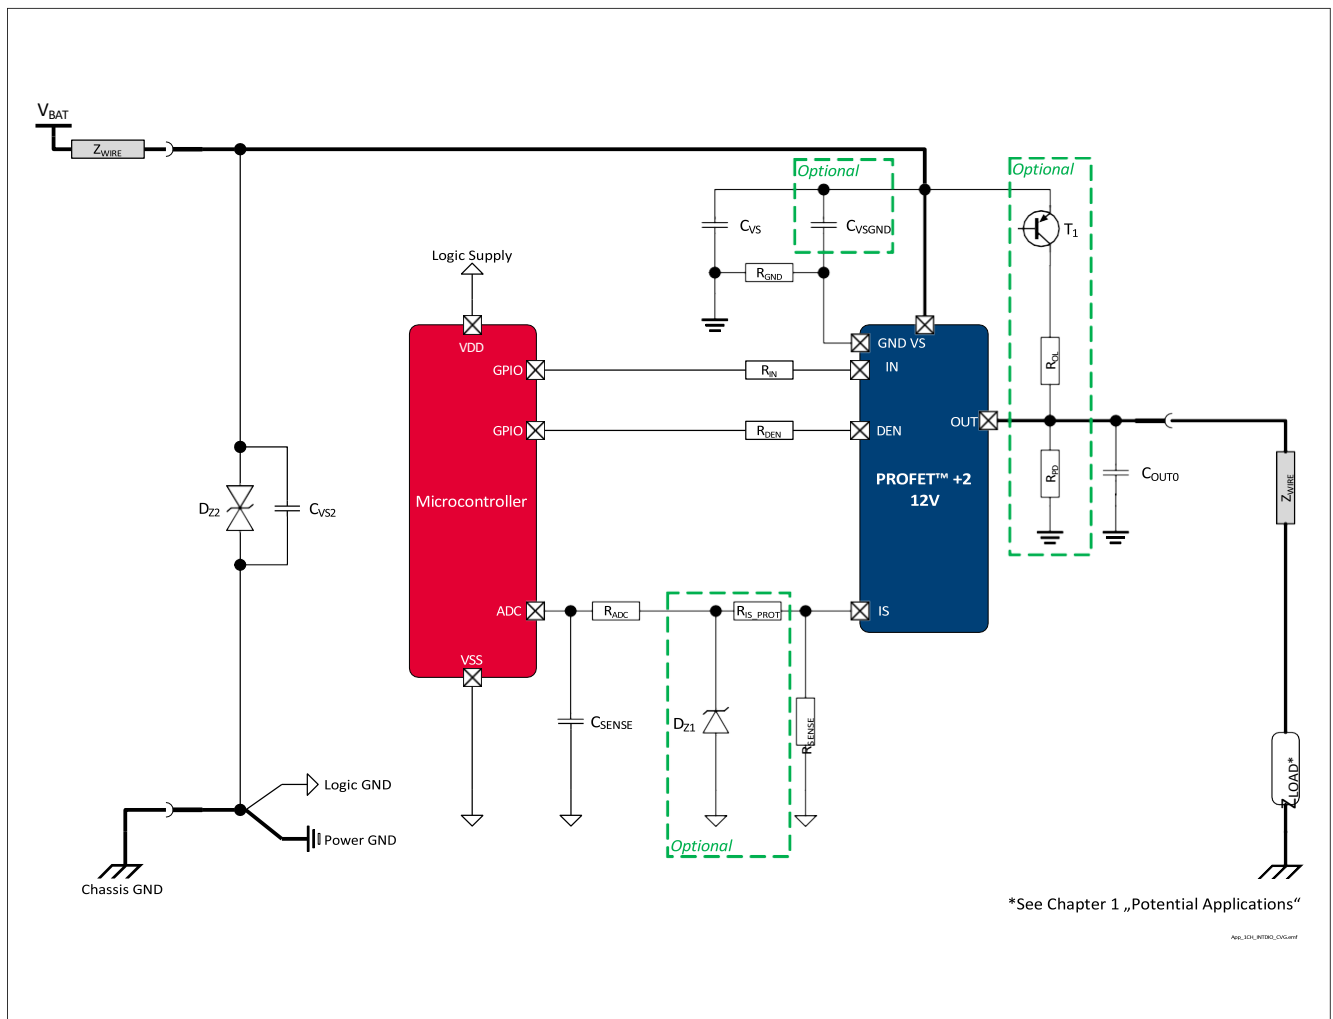

Figure 37 BTS7006-1EPZ Application Diagram
1.10, 2020-12-14	<p>Typo fixed (PROFET™+2 → PROFET™ +2)</p> <p>Figure 1, Figure 16, Figure 17, Figure 18, Figure 20, Figure 21, Figure 22, Figure 25, Figure 29, Figure 30, Figure 34, Figure 37 updated</p> <p>Chapter 1, Chapter 6.1, Chapter 6.1.3, Chapter 6.1.4, Chapter 8.2, Chapter 9.2.2 updated</p> <p>Chapter 8.4.1 updated (typo fixed)</p> <p>P_7.4.5.1, P_7.4.5.2, P_7.4.5.3, P_7.4.5.4, P_7.4.5.6, P_7.4.5.7 updated (added in Note or Test Condition: See Figure 15)</p> <p>P_8.6.4.1 updated (added in Note or Test Condition: See Figure 26)</p> <p>P_8.6.4.2 updated (added in Note or Test Condition: See Figure 27)</p> <p>P_9.6.0.6 updated (Parameter: SENSE Operative Range for <math>k_{ILIS}</math> Operation (<math>V_S - V_{IS}</math>) → Saturation Voltage in <math>k_{ILIS}</math> Operation (<math>V_S - V_{IS}</math>))</p> <p>P_9.6.0.7 updated (Parameter: SENSE Operative Range for Open Load at OFF Diagnosis (<math>V_S - V_{IS}</math>) → Saturation Voltage in Open Load at OFF Diagnosis (<math>V_S - V_{IS}</math>))</p> <p>P_9.6.0.8 updated (Parameter: SENSE Operative Range for Fault Diagnosis (<math>V_S - V_{IS}</math>) → Saturation Voltage in Fault Diagnosis (<math>V_S - V_{IS}</math>))</p> <p>P_9.6.0.20 updated (Parameter: SENSE Operative Range for Fault Diagnosis (<math>V_S - V_{IS}</math>) → Saturation Voltage in Fault Diagnosis (<math>V_S - V_{IS}</math>))</p>